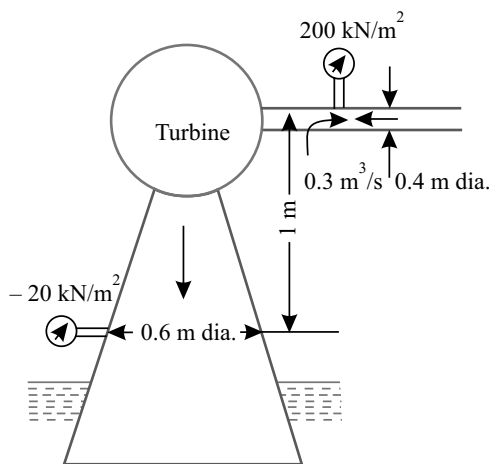

Fig. 6.96
26. In Fig 6.96 what is the power developed by the turbine assuming efficiency of 80%?